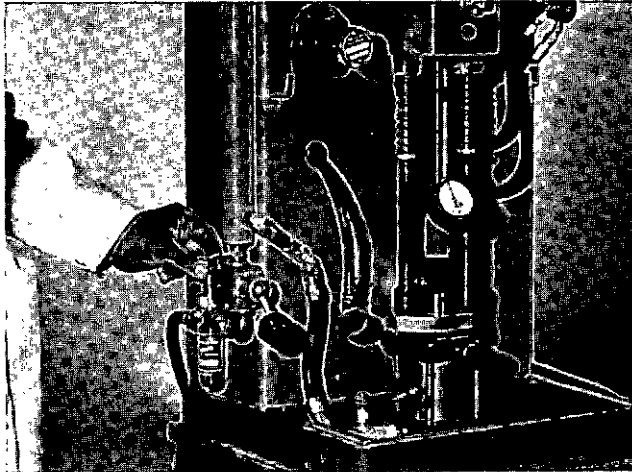

Fig. 4-46, (F60132). Adjust the air pressure
5. Adjust the air pressure by turning the knurled button on the air regulator until the load cell indicates within the marked band on the load cell gauge. Lock the knurled button in place with the locknut. Note the air gauge pressure (gauge at top of Hydraulic Reservoir), Fig. 4-46. The load cell must be between 370 and 390 when adjusted within the marked band on the dial.